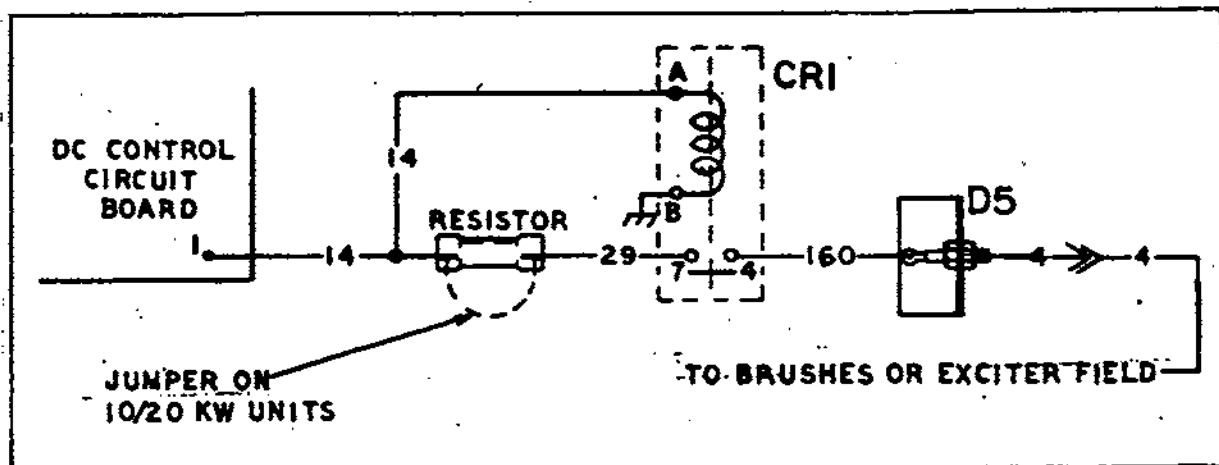

Figure 5.2-D. The Field Boost Circuit
5.2.19- CHECK FIELD BOOST VOLTAGE (Figure 5.2-D)
5.2.20- CHECK FIELD BOOST WIRE #4 FOR OPEN/SHORTED CONDITION (Figure 5.2-D)
5.2.21- CHECK FIELD BOOST DIODE (Figure 5.2-D)
5.2.22- CHECK FIELD BOOST RESISTOR (Figure 5.2-D)